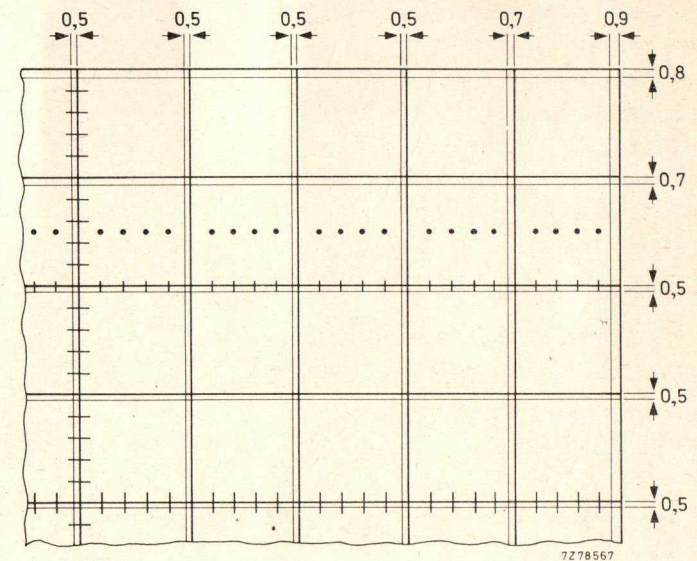

Fig. 6 Quarter of graticule with horizontal and vertical line pairs, see Note 6 on opposite page.
- A graticule consisting of horizontal and vertical line pairs according to Fig. 6, is aligned with the electrical x-axis of the tube. With optimum corrections applied (including orthogonality correction), any horizontal or vertical trace will fall between these line pairs.